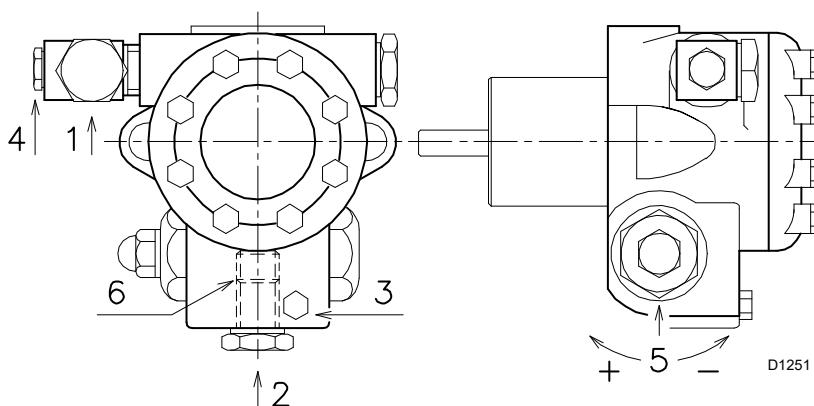

Fig. 17
- In order for self-priming to take place, one of the screw 3)(Fig. 17) of the pump must be loosened in order to bleed off the air contained in the suction line.
In order to adjust pump pressure, use the relevant screw 5)(Fig. 17 pag. 16)